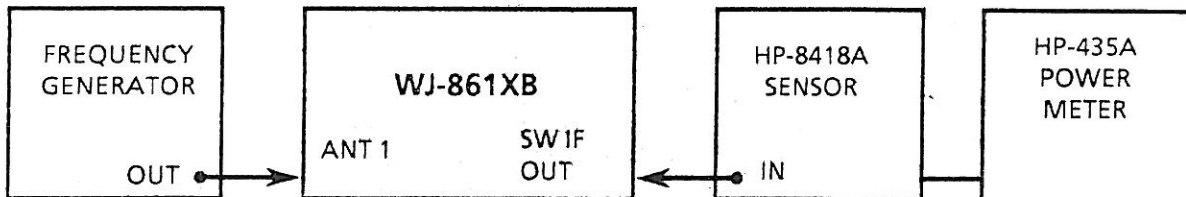

Figure H-3. NRT Threshold Test Configuration
2. Connect the test equipment as shown in Figure H-3.